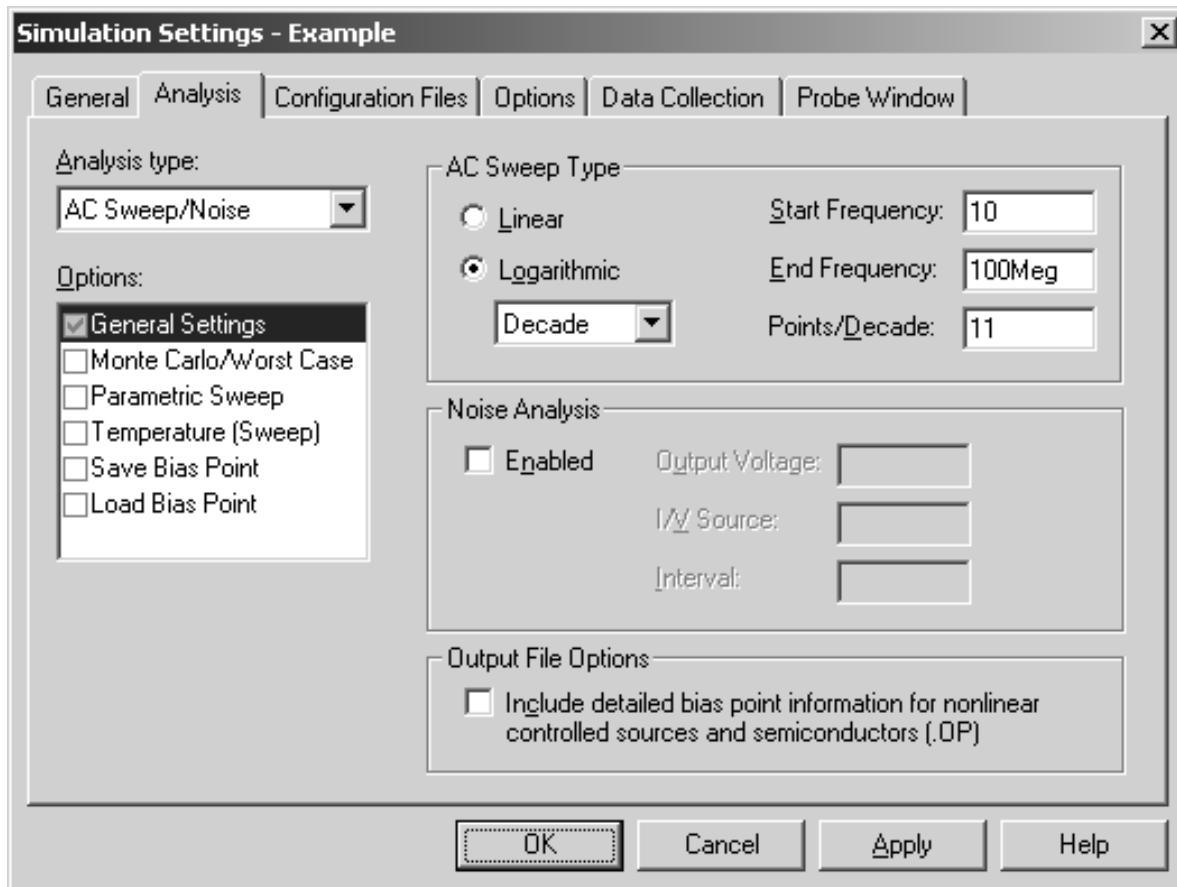

Figure 2-22 AC sweep and noise analysis simulation settings.
4. From the Analysis type list, select AC Sweep/Noise and enter the settings shown in Figure 2-22.